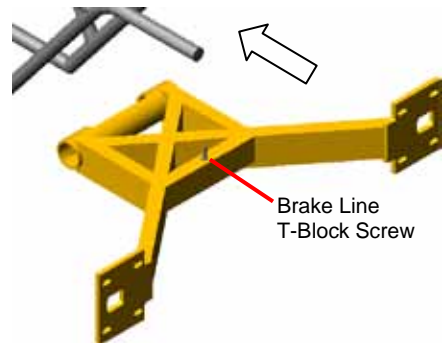

Figure 5
- b. Position Champion Swing Arm (with brake line T-Block screw on cross bar pointing upward) to rear of transmission. Figure 5